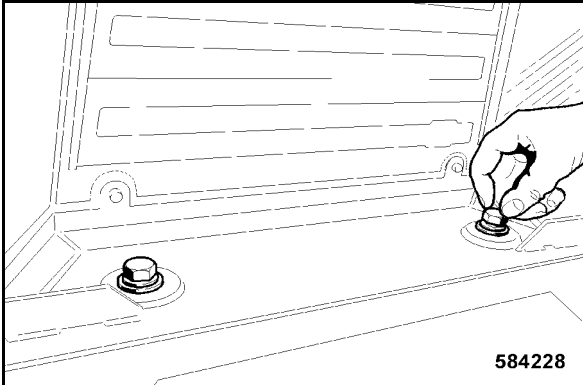

Fig. 211
- Turn both fastening screws (Fig. 211) at the rear of the cabin in handtight.